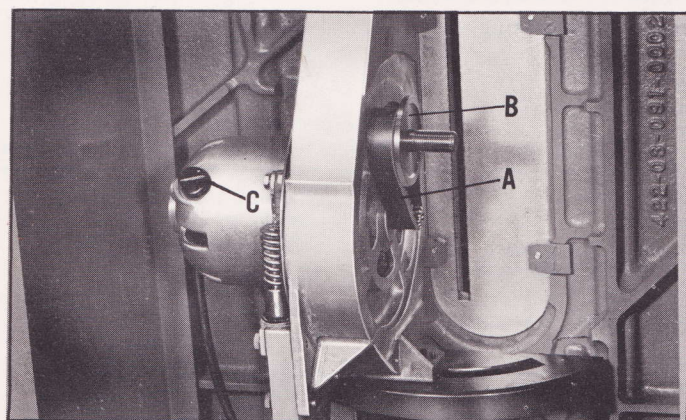

Fig. 9
3. Slide the belt (A) Fig. 9, off the motor shaft and at the same time slide off the blade arbor flange (B). NOTE: For clarity, the photograph shown in Fig. 9, is taken from the underside of the saw.
The brush holders are located on the end of the motor opposite each other. One brush holder (C) can be seen in Fig. 9. If the brushes are found serviceable after removing, reinstall them in the same position as removed.